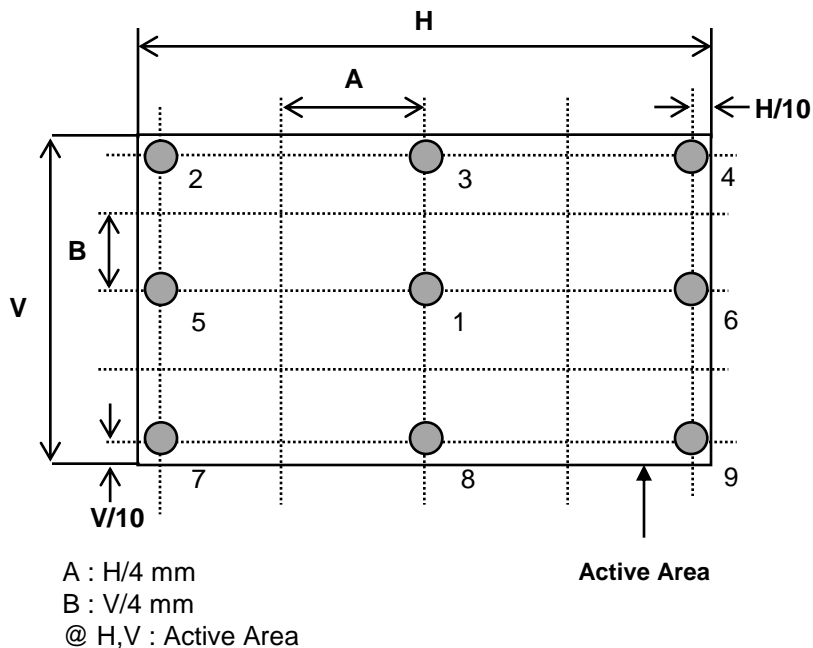

FIG. 2 Measure Point for Luminance
2. Surface luminance(L_{WH})is luminance value at center point(1) across the LCD surface 50cm from the surface with all pixels displaying white. For more information see FIG 2.
For more information see FIG 2.